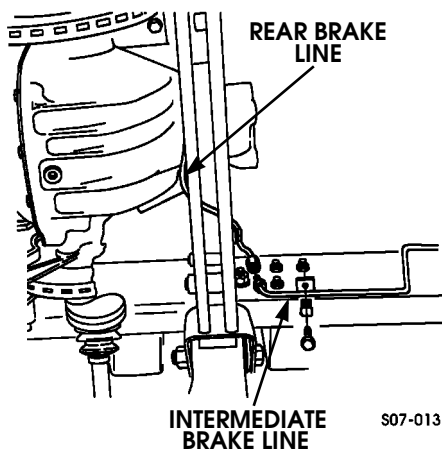

Figure 7-16: Intermediate Brake Line
2. Connect intermediate brake line to rear brake line (Figure 7-16).